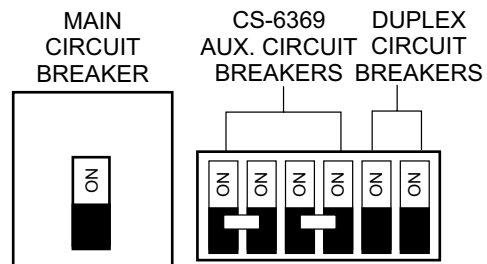

Figure 46. Main, Aux. and Duplex Circuit Breakers (ON)
10. Place the **main, aux, and duplex** circuit breakers in the **ON** position (Figure 46).